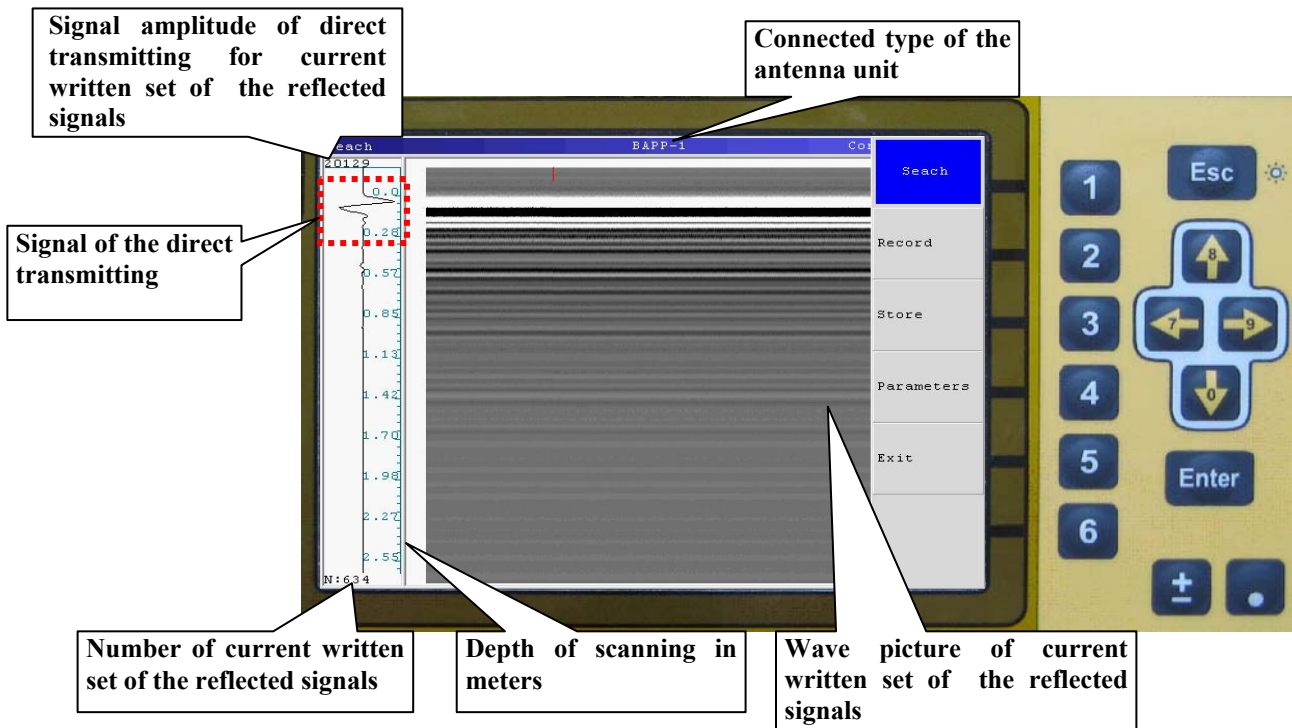

Figure 3.3.2. Display of written down signals
2. Press functional key «2» («Search»). The type of connected BAPP is defined automatically. After the «Search» mode, the signals are to be displayed on the BUOI. These signals are reflected from the objects and layers of the scanning zone in the way of black and white lines of various brightness (colored lines) (figure 3.3.2). The wave picture of current written set of the reflected signals of the selected record time range (as so-called lines of signal) is at the left side of the screen. At that time Led indicator on the BAPP case is to be continuously lightning that is to identify the operation of the transmitting unit of the device.
The first three half-periods of each line (on the figure 3.3.2 is allocated by a dotted frame in the image of wave form) as so called the signal of direct transmitting. The signal of direct transmitting is not to go to the scanning zone, it is to go directly – from transmitting antenna unit to the receiving and as a rule, it has the biggest amplitude in the current line. The top area of noise is above the signal of direct transmitting. The normal position of the signal of direct transmitting – figure 3.3.2.